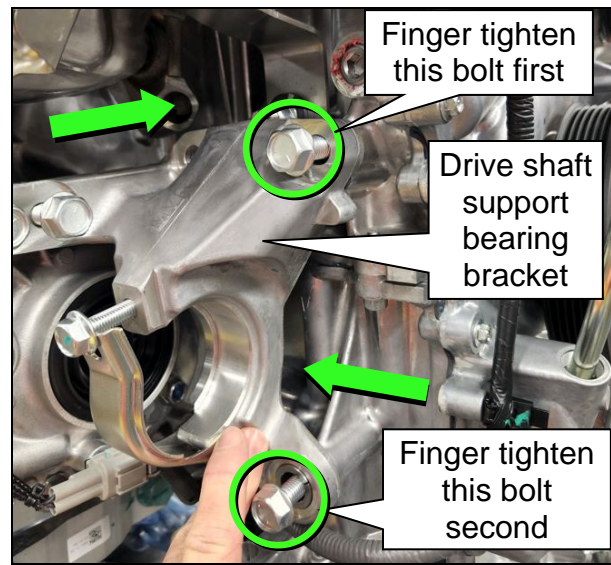

Figure 8
1. Place and hold the drive shaft support bearing bracket into position, ensuring it is flat against the engine block and transfer assembly, and loosely install the bolts (Figure 8).